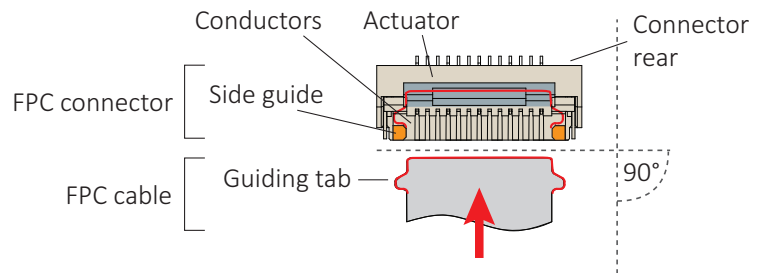
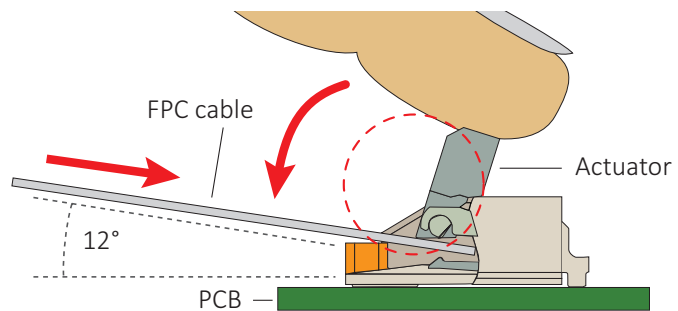

Figure 14: FPC cable and FPC connector
Figure 15: Engaging the FPC cable in the FPC connector
2. **Ensuring proper cable orientation between devices to be connected**, take the FPC cable with conductors facing the FPC connector conductors (see Figure 14 on page 32).
At a horizontal angle of  $90^\circ$  to the connector's rear (see Figure 14) and at a vertical angle of  $12^\circ$  to the PCB (see Figure 15), slowly insert the FPC cable into the actuator...
4. ...until cable guiding tabs are caught between connector rear and side guides (see Figure 14). Pull the cable slightly to ensure guiding tabs are properly engaged.
5. Holding the FPC cable in position, flap down the actuator to closed position (see Figure 15).